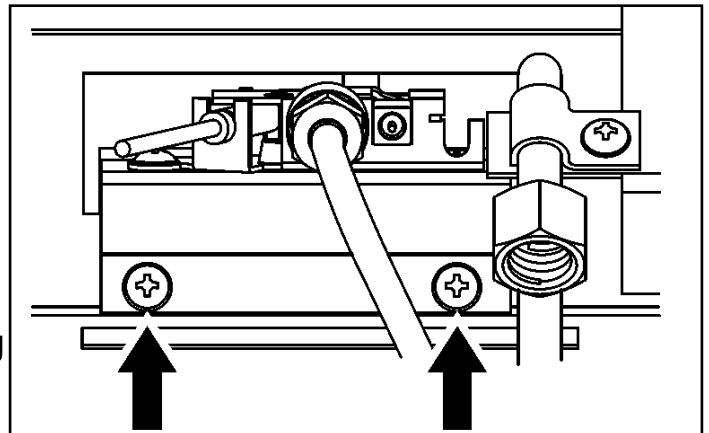

Figure 34. Pilot / pilot bracket assembly removal
5. Remove the two screws from the pilot bracket (See figure 34).